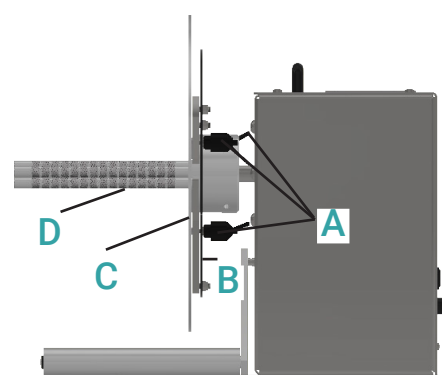

FIG. 9
- ACH (FIG.9): Slide the Hub of the ACH over the motor Shaft of the UNI-CAT. Position the Hub so there is a gap between the ACH Hub and the Rewinder Drive Unit case. Tighten the Allen Screw onto the flat part of the Motor Shaft until it is tight.
## USING THE ACH (FIG.9)